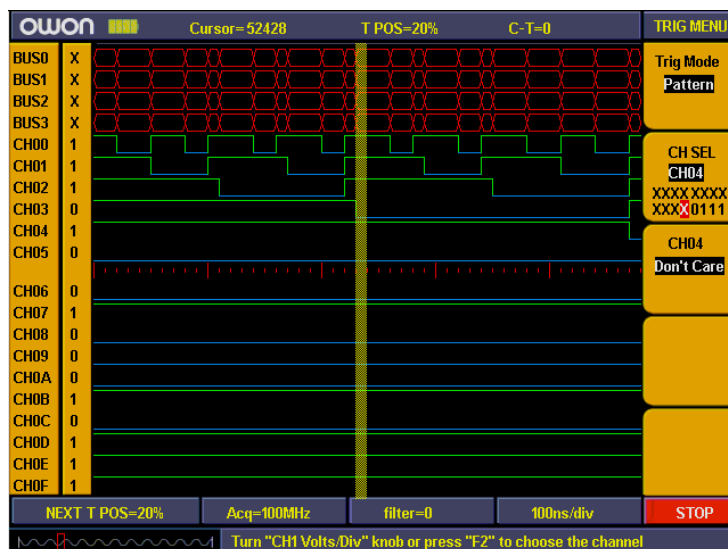

Fig.85: Pattern trigger
- Pattern trigger setting finished (refer to Fig.85) and ready for data acquisition.